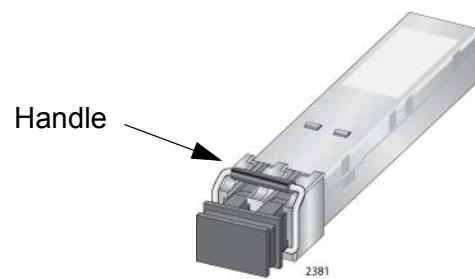

Figure 86. Handle on SFP+ Transceiver
2. Orient the SFP+ transceiver with the handle on top, as shown in Figure 86 on page 133.